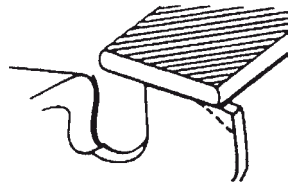

Fig. 40
- 4) Round off front corner to maintain original shape of depth gauge after using depth gauge tool. Always follow the recommended depth gauge setting found in the maintenance or operator manual for your saw. (Fig. 40)